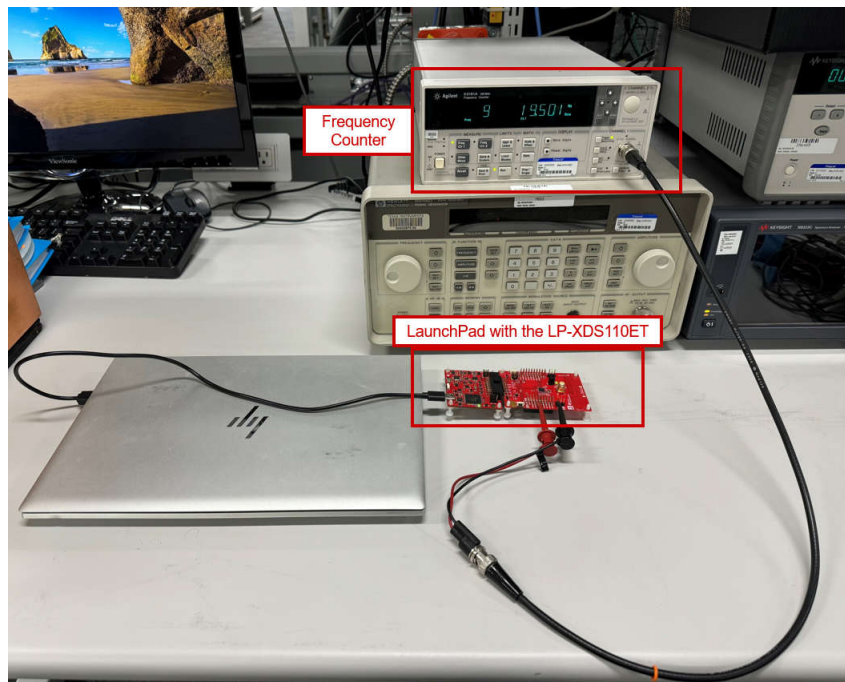

Figure 6-3. Low Frequency Clock Tuning Bench Setup
- Step 3: Connect the instruments as shown on Figure 6-3.